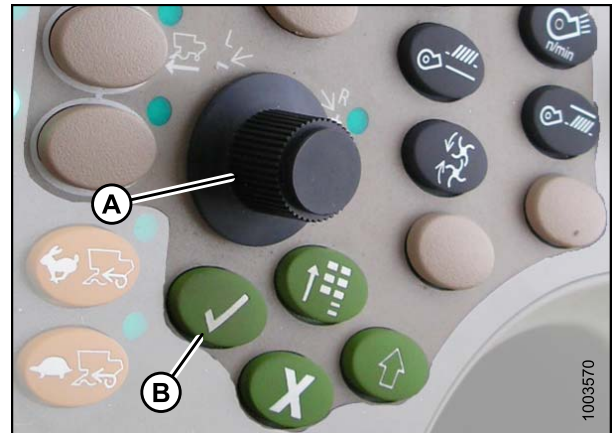

Figure 6.48: John Deere Combine Control Console
4. Select HEADER in box (A) by scrolling down to the box using the scroll knob, and then pressing the check mark button (knob and button are shown in Figure 6.48: John Deere Combine Control Console, page 93).
5. Scroll down to the lower right icon that resembles an arrow in a diamond (B) and press the check mark button to select it.